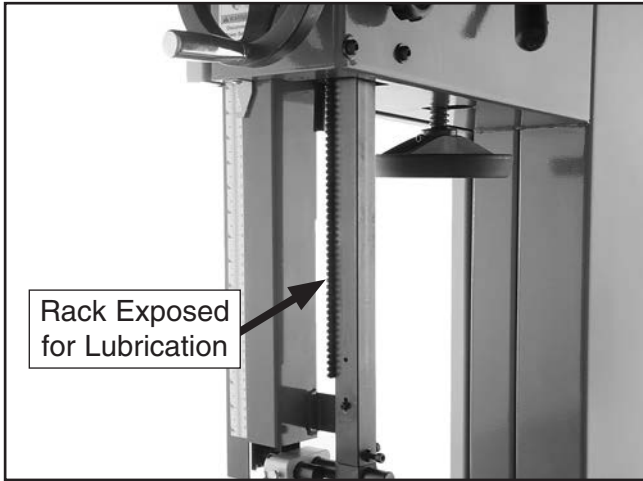

Figure 91. Example of rack lubrication location.
- Using a rag and mineral spirits, wipe off any existing grease and sawdust build-up on the rack (see **Figure 91**).